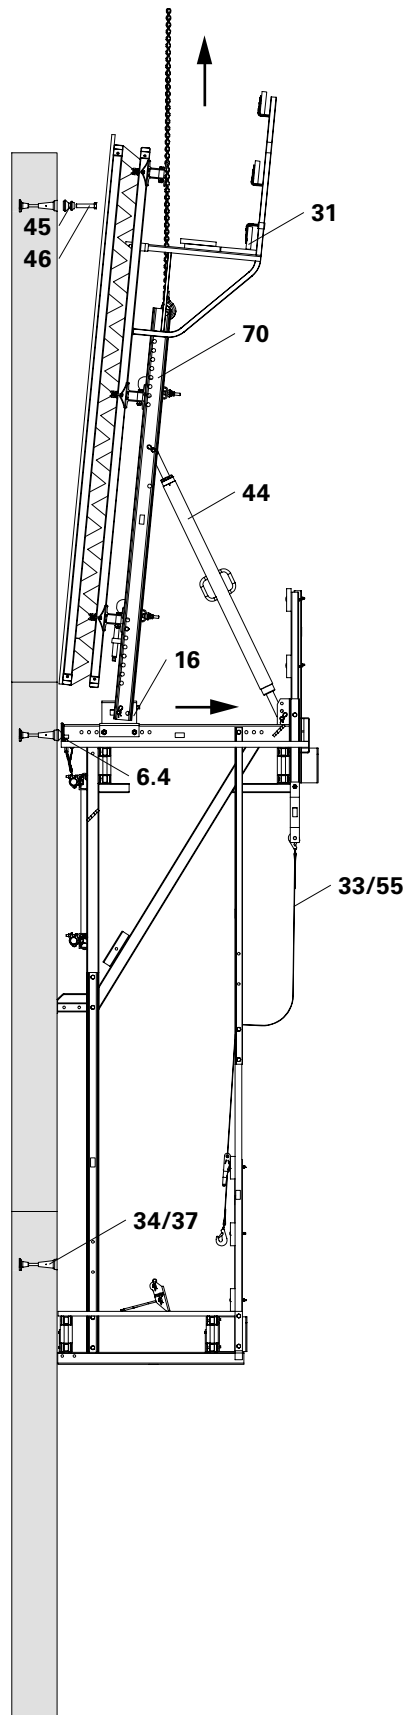

Fig. B4.01
2. Move formwork away from the wall using the Adjusting Unit CB (16), see B3. Tilt formwork towards the guard-rails using the Adjustable Brace CB 164-224 (44).
3. Mount Scaffold Mounting Ring M24 (45) on the next concreting section using Bolts ISO 4014 M24 x 120-10.9 (46), see B1 Anchoring.
4. Detach wind bracing from the wall using Tie Rod DW 15 (33) or Tension Belt L = 5.70 m, 2.5 t (55) and lay it down on the finishing platform.
7. Brace Strongback CB (70), e.g. with timber, see C1 Moving.
8. Open concreting platform decking (31) above the Strongback. Secure loose parts. Attach moving unit to the Strongback CB (70). (Fig. B4.01)